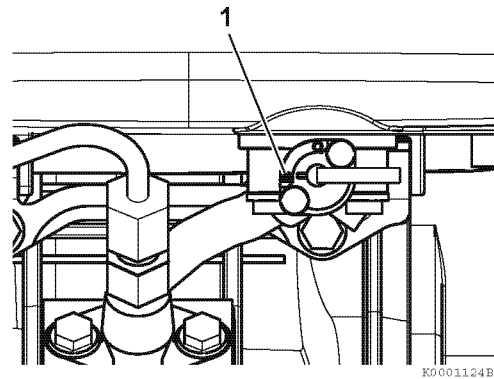

Figure 22
1. Move the fuel cock lever to the closed position (1, **Figure 22**).